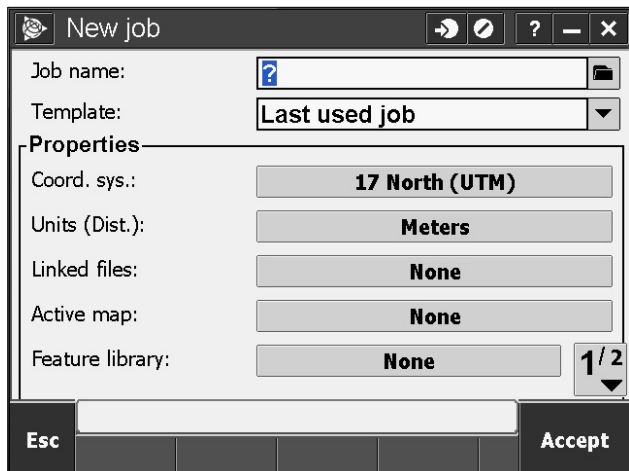

Figure 4. Create new job menu.
- b. Select New Job if this is the first time surveying this site (Figure 4) or Open Job to select the job created during field season preparation (and skip to step 3; see SOP 1.2.13 for more information).